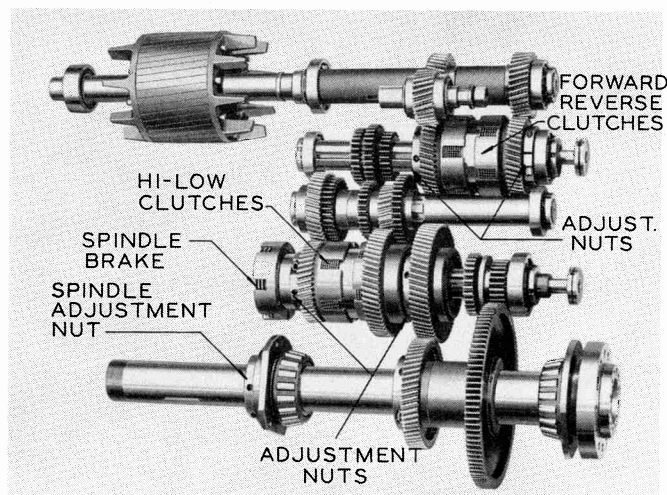

FIG. 4
1. There are two double multiple disc clutches, one to obtain forward and reverse spindle rotation and one to provide quick high-low speed changes (Figure 4).